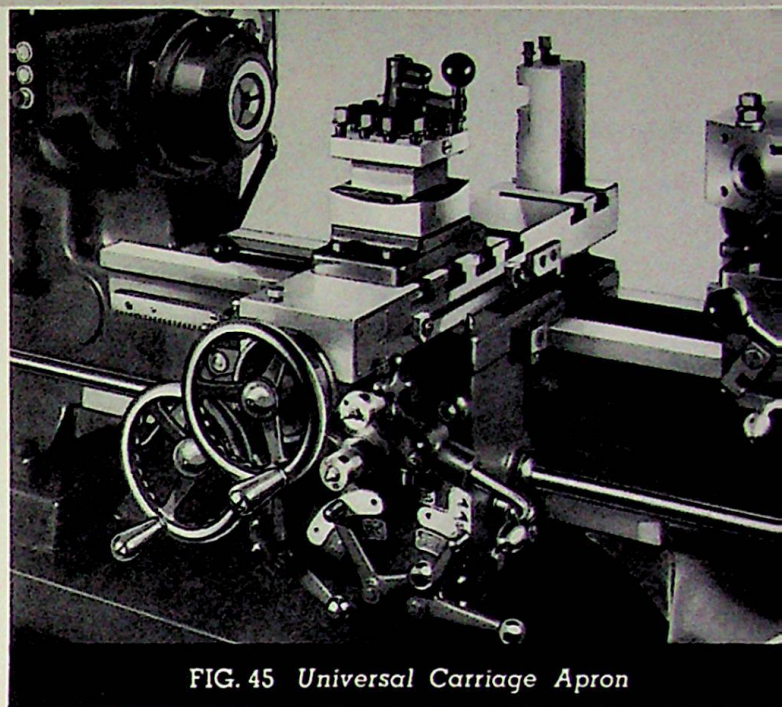

FIG. 45 Universal Carriage Apron
The action of the carriage apron is similar in principle to the hexagon turret apron, except that a second clutch (6), Figs. 45 and 46, is incorporated for cross feeding, clutch (4) being for longitudinal travel.
4. Cross feed clutch shaft (6) Figs. 45 and 46, can now be pushed out toward the rear while longitudinal feed clutch shaft (4) slides out to the front.
(3) Fig. 45
(3) Figs. 45, 50 and 52